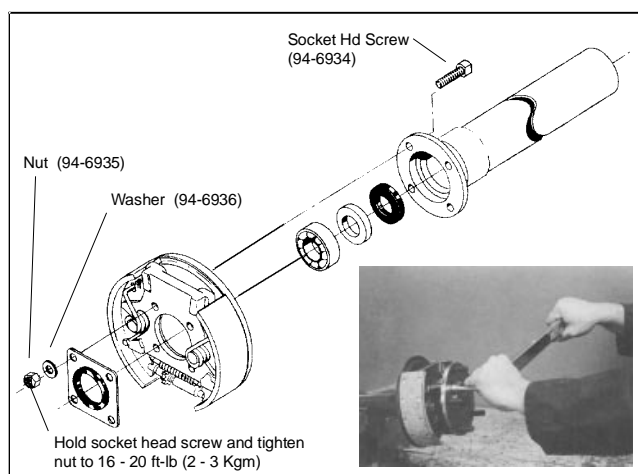

Figure 18
NOTE: When servicing the bearing and seal area of the axle shaft, it is recommended that you replace hex head screws and flange nuts with socket head screws (94-6934), washers (94-6936) and nuts (94-6935). See Figure 18.
14. Start the nuts by hand. Tighten the nuts so the bearing assembly is drawn evenly into the axle housing (Fig. 18). **NOTE:** It is recommended that you replace hex head screws and flange nuts with socket head screws, washers and nuts (Fig. 18). If installing socket head screws, tighten the nuts to a torque of 16 - 20 ft.-lb. (2 - 3 Kgm). If reinstalling hex head screws, tighten the nuts to a torque of 37 - 45 ft.-lb. (5 - 6 Kgm).